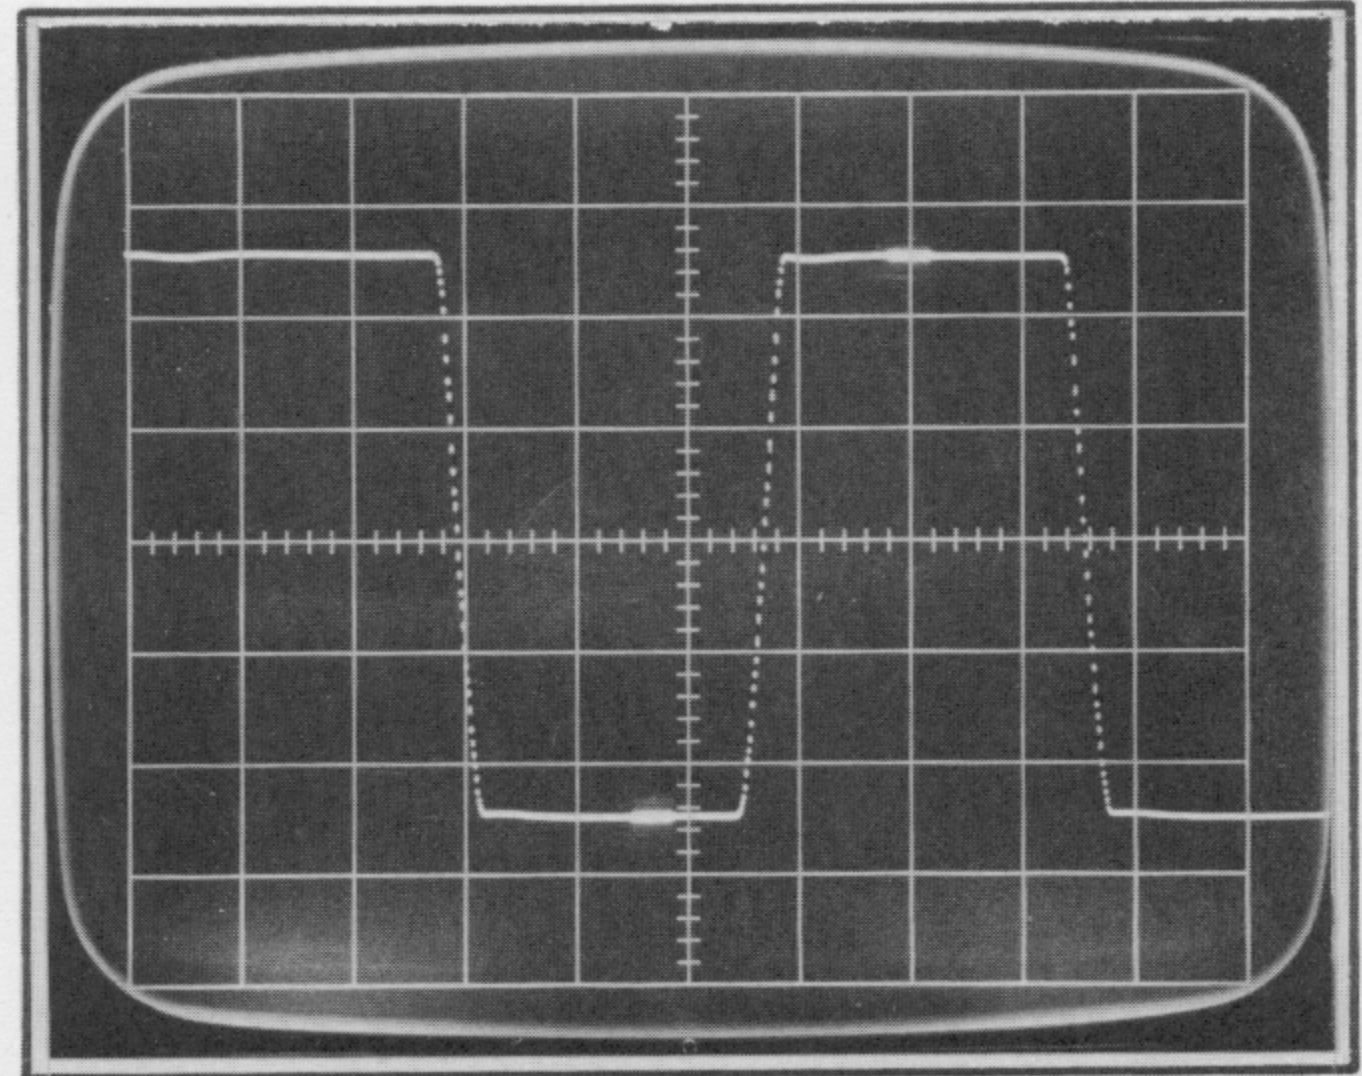

Fig. 7-11. Typical display for checking Vertical accuracy.  $10\ \mu\text{s}$  square wave at  $2\ \mu\text{s}/\text{div}$ .
355 Units/Div switches to 200 and obtain a display similar to Fig. 7-11. Check that both VARIABLE controls are at CAL. Set the digital unit controls to measure voltage from Channel A, along a rising slope waveform. Set the sampling sweep unit for 2  $\mu\text{s}/\text{div}$ .
b. Connect the cable between the Type 284 and the sampling head input. Set the sampling sweep unit for a sweep rate of 0.5  $\mu\text{s}/\text{div}$  (500 ns; Decade at 7, Multiplier at 5). Set the Type 284 to deliver 10  $\mu\text{s}$  square wave at 1.0 volt. Obtain a display similar to Fig. 7-11, normally triggered (not double triggered).